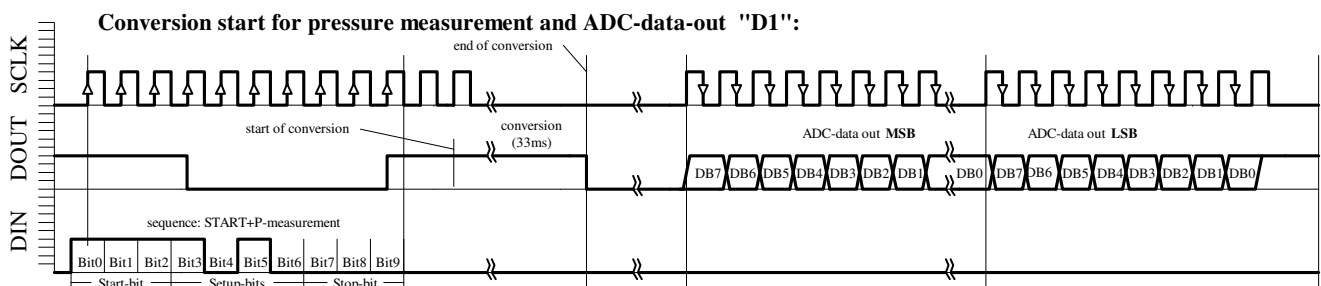

Fig. 6a: D1 ACQUISITION sequence
- Conversion START for pressure measurement and ADC-data-out "D1" (Figure 6a)